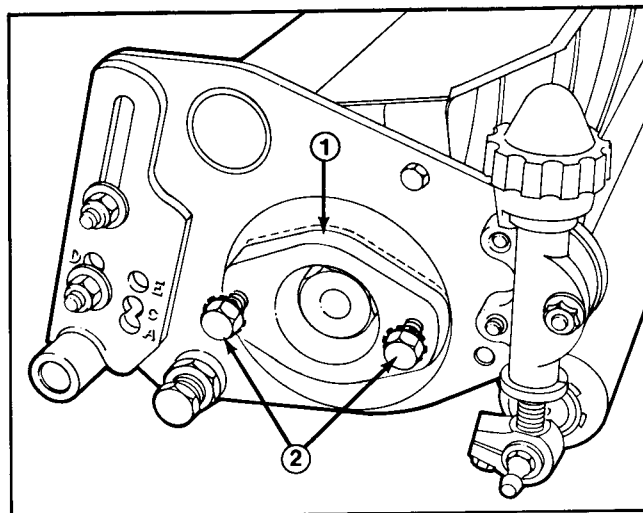

Figure 37
3. Use a soft face hammer to rotate bearing housing slightly. Install bolts from outside of housing and turn bolts alternately against side plate to remove bearing housing (Fig. 37). Bearing housing will slip out of side plates. Reel can be removed as soon as bearing housings are disassembled from side plates.